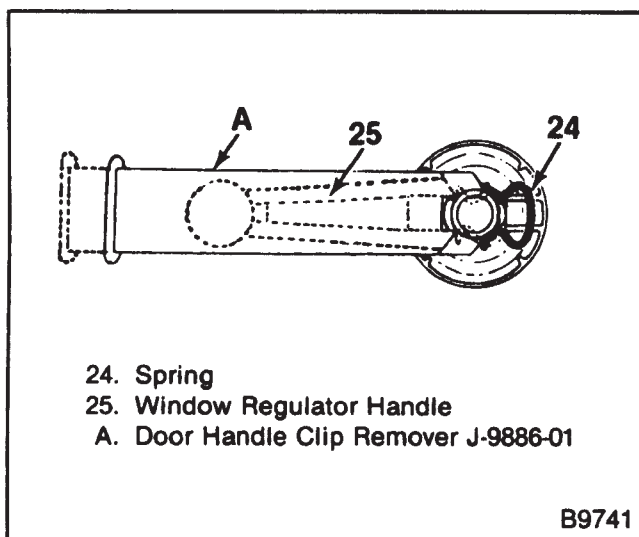

Figure 16—Window Handle Replacement
1. Window regulator handle (figure 16).